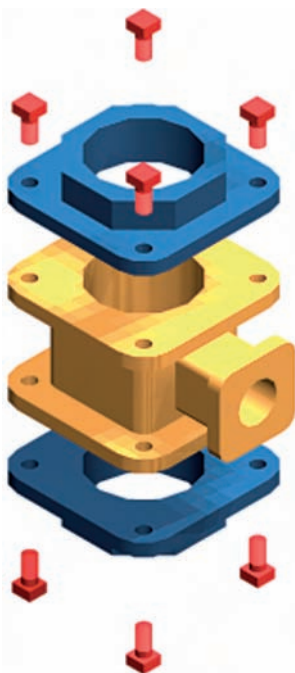

Fig. 17.11 **Second example – UCS**
18. Finally move all the parts away from each other to form an exploded view of the assembly (Fig. 17.11).